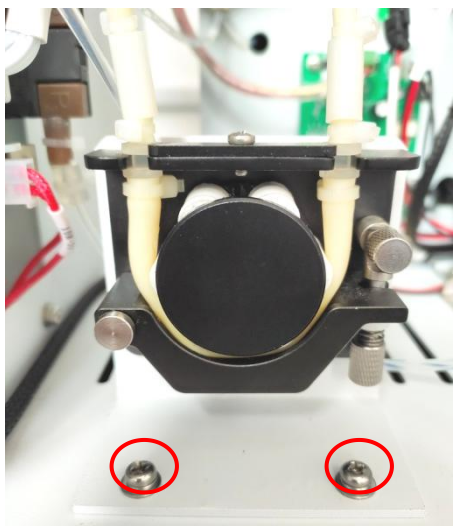

Fig.6.45
- 3) Unscrew the two fixing screws and remove the pump (Fig.6.45).